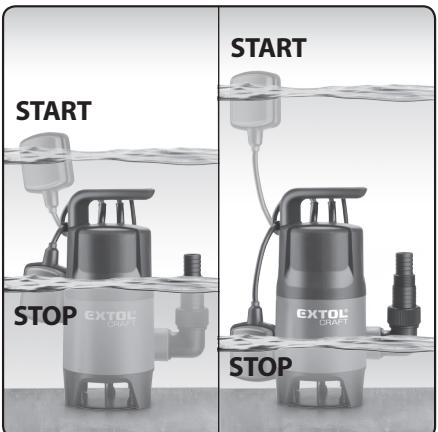

Fig. 2
→ The adjustable length of the float cord makes it possible to set the water level at which the pump will start and stop, see Fig.2.
• For the float switch to function correctly, the distance between the float switch and the float switch fixture must not be too small. The described principle is shown in Fig. 2.
- The operation of the pump's electric motor is automatically controlled by the position of the float switch relative to the level of the liquid being pumped, see fig. 2.